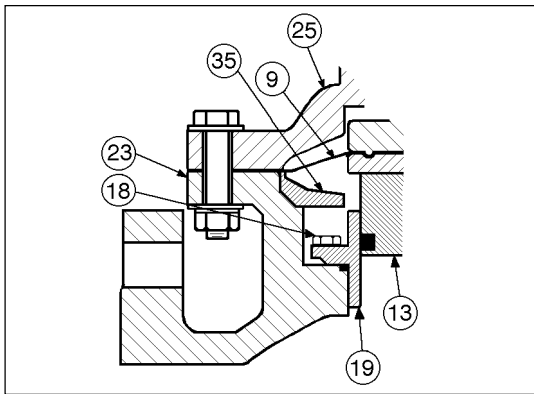
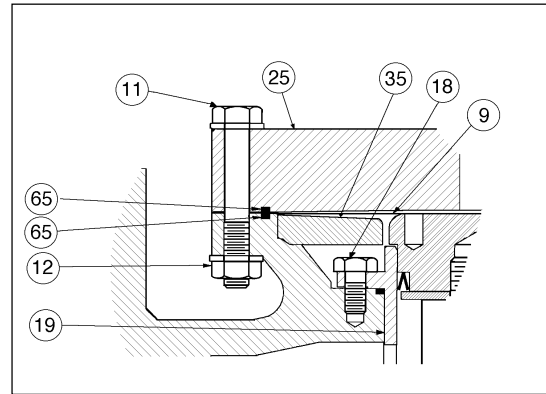

Figure 5: Opt-80 — Composition Diaphragm Construction, 2" and Smaller
Figure 6: Opt-80 — Metal Diaphragm Construction, 2" and Smaller
1. A supported diaphragm (9) construction is designated as Opt-80 High Outlet Pressure. Both upwards and downwards directions are protected against pressure reversal; i.e. pressure on one side of diaphragm (9) with no pressure on other side of diaphragm (9).
2. Body Sizes 2" and Smaller; Composition and Metal Diaphragm. (See Figure 5.)
- a. Body (23) is specially machined with a shelf to capture a lower diaphragm support ring (35).
- b. Cover dome (25) is specially machined to provide a surface for the upper diaphragm (9) support. Lower diaphragm support ring (35) is captured by its location. Upon removal of cover dome (25) and diaphragm (9), the lower diaphragm support ring (35) can be lifted upwards and out of the body (23) cavity.
3. Body Sizes 2" and Smaller; Metal Diaphragm. (See Figure 6.)
- a. Body (23) is specially machined with a shelf to capture a lower diaphragm support ring (35) and a groove for lower o-ring diaphragm seal (65).
- b. Cover dome (25) is specially machined to provide a surface for the upper diaphragm (9) support and a groove for upper o-ring diaphragm seal (65). Lower diaphragm support ring (35) is captured by its location. Upon removal of cover dome (25) and diaphragm (9), the lower diaphragm support ring (35) can be lifted upwards and out of the body (23) cavity.
- c. Dual o-ring seals (65) replace the diaphragm gasket (37) normally supplied with standard metal diaphragm construction; i.e. non-Opt-80.